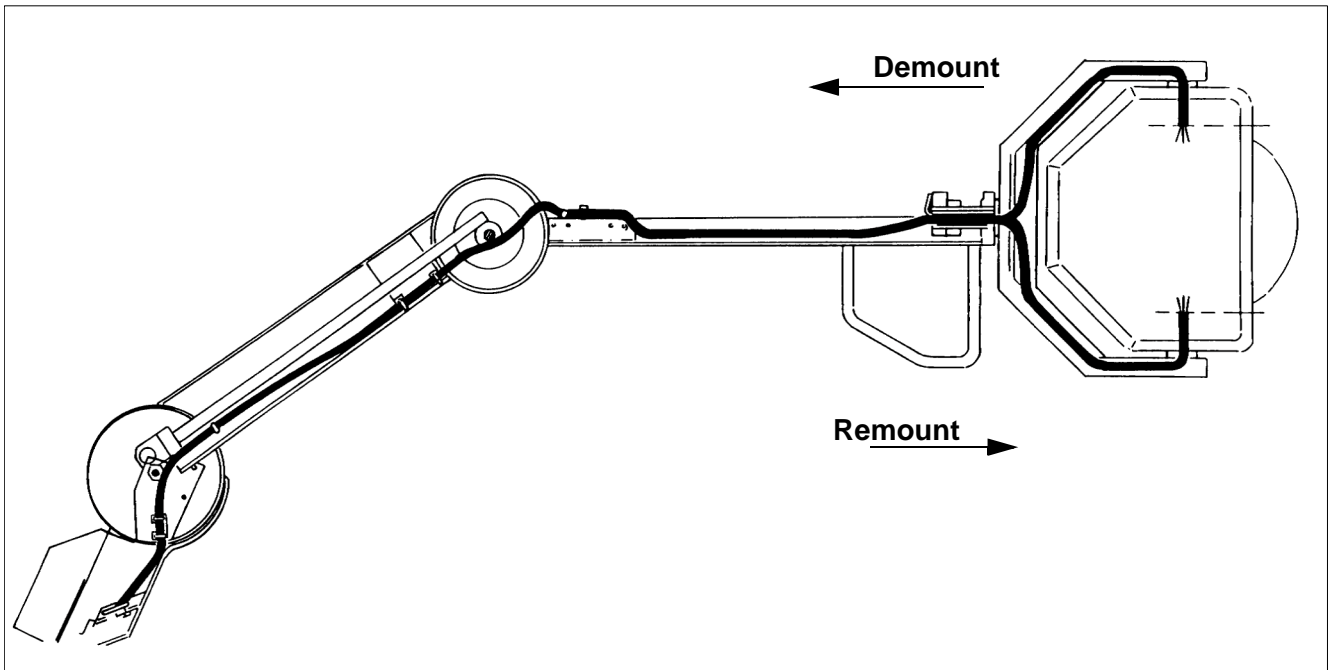

Fig. 22
- Disconnect the chassis connections and remove the cables (Fig. 22).